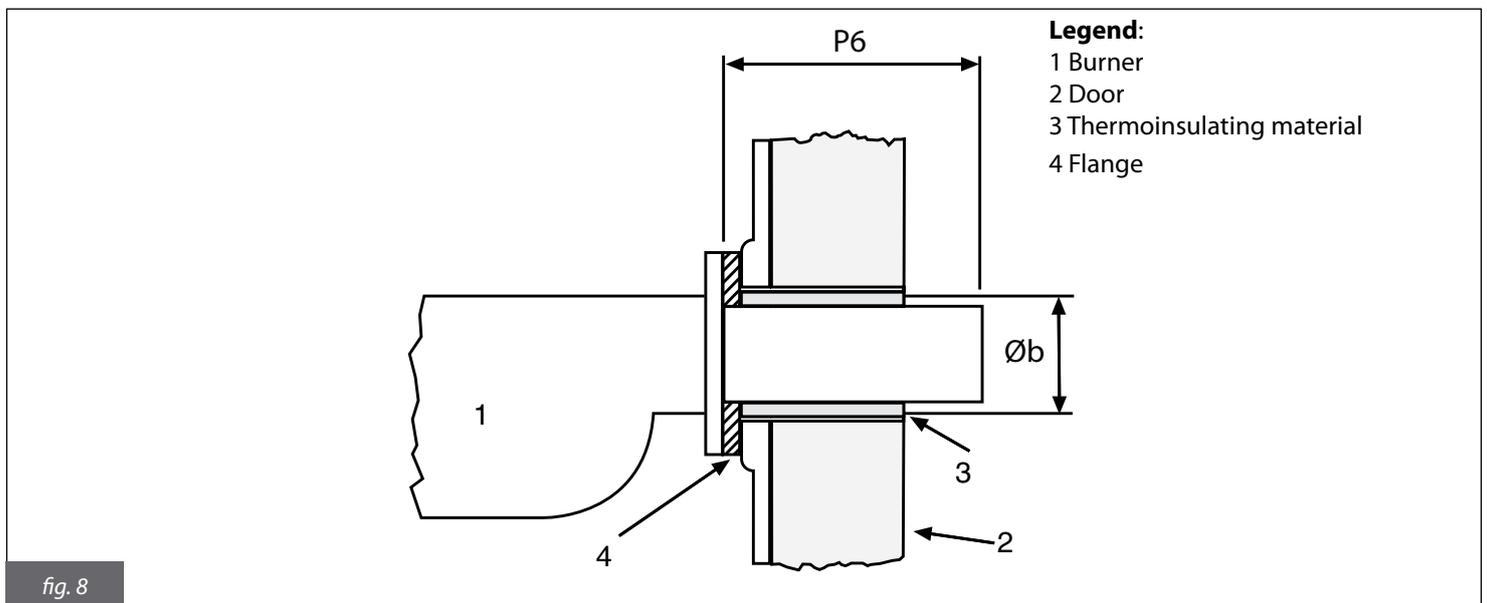

fig. 8
**Fill the space between the burner nozzle and the door with suitable thermoinsulating material, such as a ceramic seam (fig. 8).**